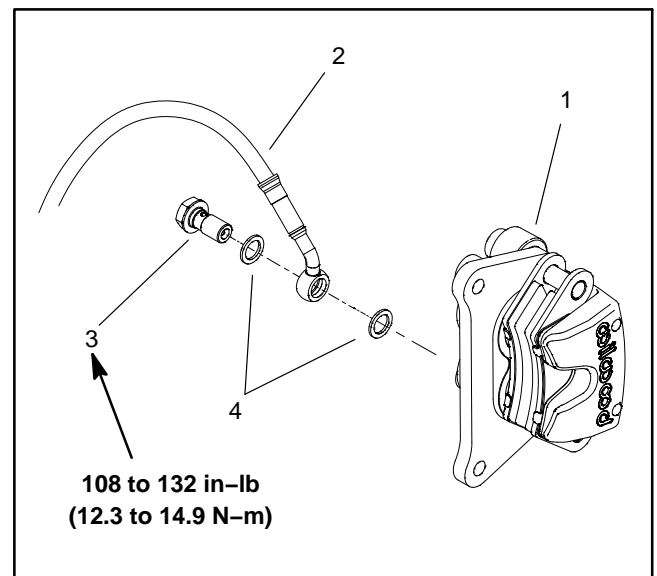

Figure 5
4. Disconnect brake line from caliper (Fig. 5):
C. Carefully separate brake line from caliper. Locate and retrieve two (2) banjo washers from sides of brake line fitting.
5. Remove two (2) flange head screws that secure the brake caliper to the machine.
2. Align caliper with mounting holes. Secure caliper with two (2) flange head screws. Torque screws from **35 to 40 ft-lb (48 to 55 N-m)**.
3. Connect brake line to caliper (Fig. 5):